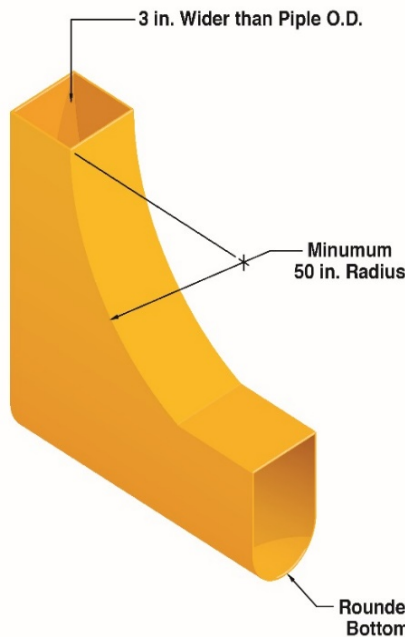

Figure 2: Boot Design Example for GOLDFLEX Pipe
The width of the inside of the boot shall be approximately **3" wider** than the outside diameter (OD) of the pipe (Figure 2). Therefore, a boot for 12" GOLDFLEX pipe will be 17.5" wide considering the OD of a 12" pipe is approximately 14.5" (Table 1). The excess width will help reduce friction on the pipe as it moves through the boot.